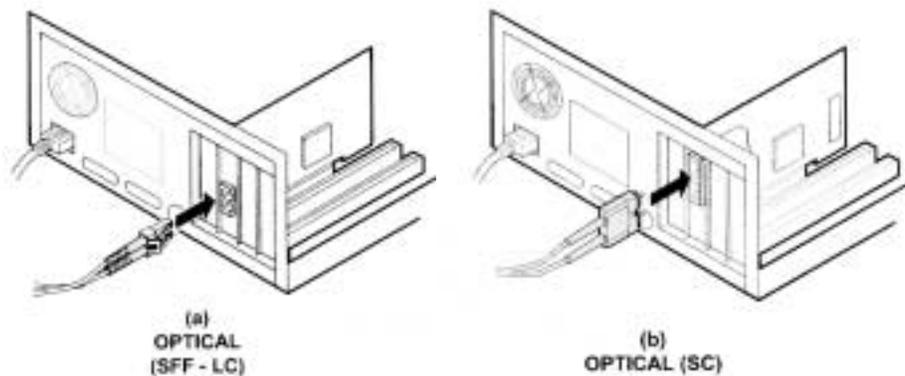
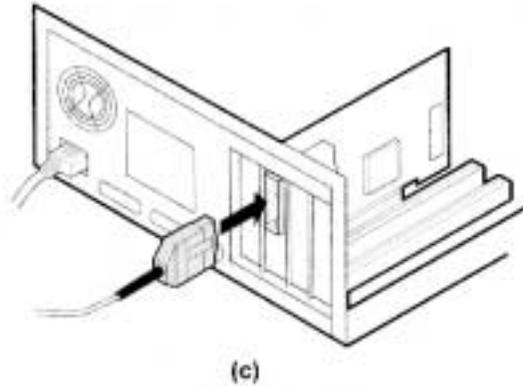

Figure 2-3. Optical (SFF - LC) and Optical (SC) Cable Connector
Figure 2-4. Copper Cable Connector
2. Select the correct cable that matches the GBIC you installed and install the end connectors into the GBIC. The GBIC and Fibre Channel cable are keyed, so they can only fit one way. Refer to Figure 2-3. on page 8 for optical cable connection and Figure 2-4. on page 9 for copper cable connection.